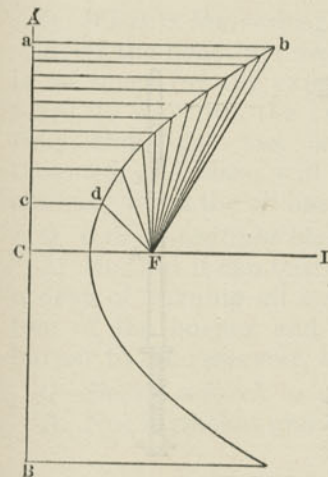

Fig. 312.
A. A parabola; this is, referring to Fig. 312, a curve in which every point is just as far from the focus  $F$  as from a certain line  $AB$  at right angles to its axis  $CD$ . Thus, in the cut,  $ab = bF$ ;  $ce = eF$ , and so on.